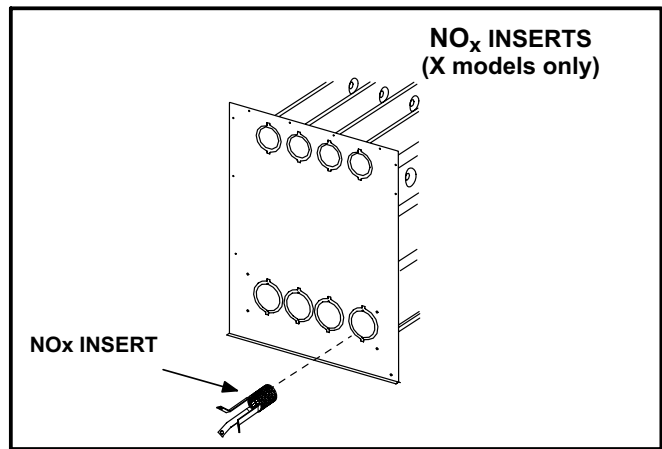

FIGURE 19
- 11 - ***NO_x units only*** - Remove the three screws that attach the **NO_x** insert to the corbel at the entrance to each heat exchanger section. Carefully remove the **NO_x** insert from each section. See figure 19.
- 19 -**NO_x Units** - Reattach the NO_x inserts to the corbels at the entrance to each heat exchanger opening. See figure 19.